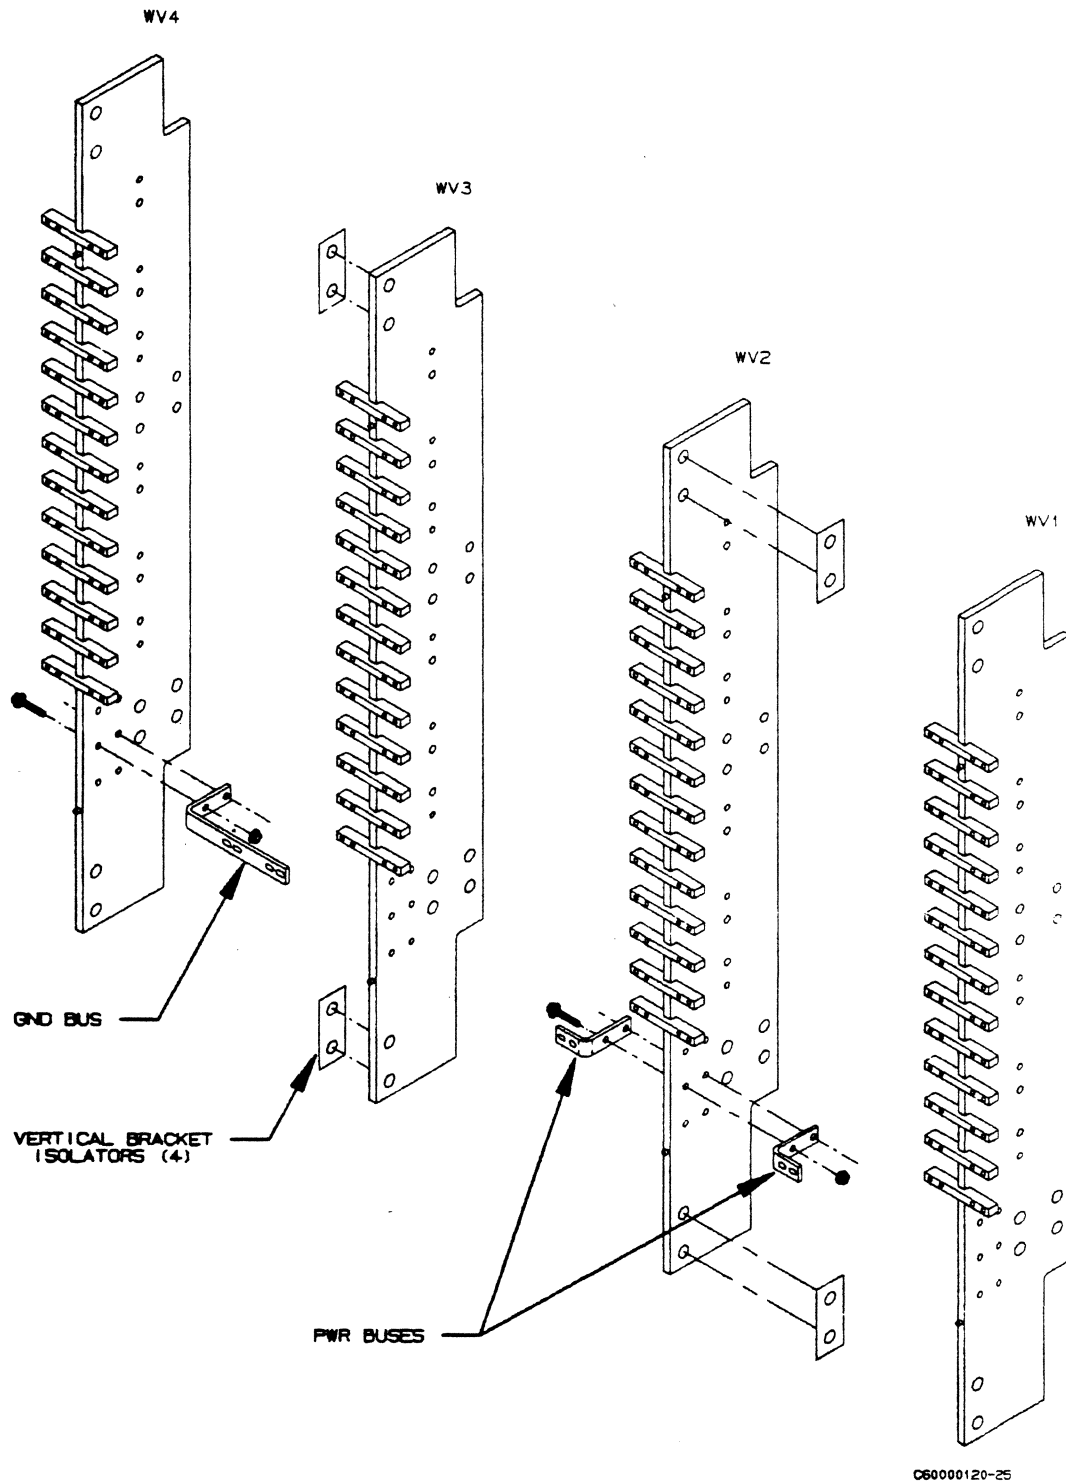

Figure 3-11. Bus Bar Preparation
- ___ a. If Remote IOU is not present, install power and ground buses as shown in figure 3-11. Note which mounting holes are used, as well as difference in WV4 ground bus. Torque mounting screws to 2 N·m (18 lbf·in).